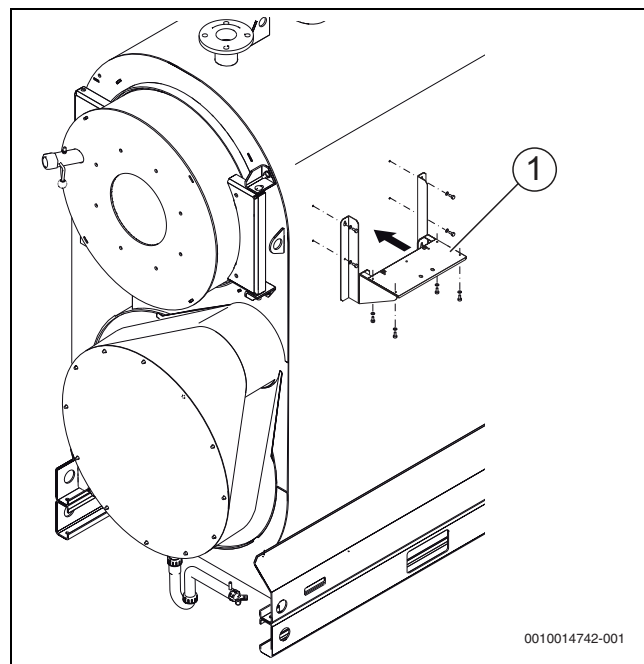

Fig. 21 Installing the control unit support
- ▶ Secure the control unit support (→ Figure 21, [1], page 23) with the self-tapping screws supplied.